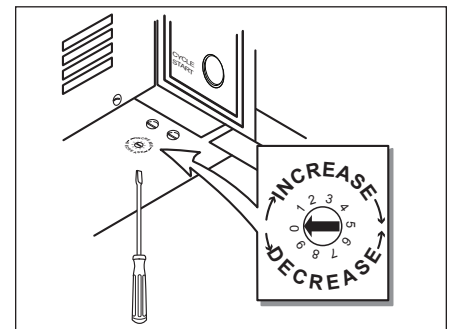

Figure 10. Water Volume Adjustment
9. With the unit positioned at the edge of its location surface (Edge of the counter, table, etc.) slide the steamer forward approximately 3" to expose the Water Volume Control on the button of the unit (Figure 10).
10. Using a small screwdriver (Figure 10), carefully and slowly adjust the control clockwise to increase or counterclockwise to decrease the amount of water volume used per cycle.